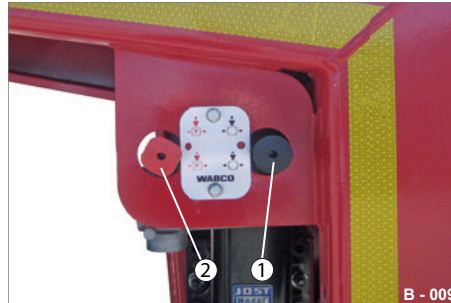

Fig. 18 Operating console
- Engage the spring-loaded parking brake (Fig. 18/2).